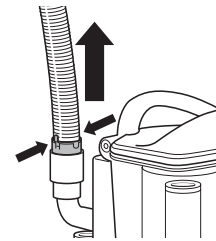

Fig. 28
- Detach the stretch hose from the back of the canister by squeezing the tabs together and pulling up. **(Fig. 28)** Straighten out the hose and look inside for blockages.